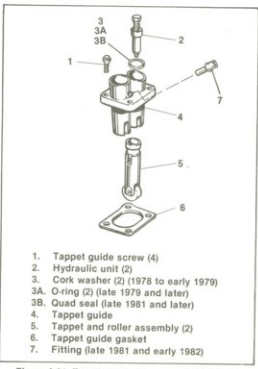

Figure 3-31. Tappet Assembly — Exploded View
Disassembling Tappets (Figure 3-31)
Assembling Tappets (Figure 3-31)
1. See Figure 3-31, 3-32. Slip tappets (5) into guide (4) so flat surfaces on tappets are toward center of guide as shown. If flat surfaces with holes are not toward center of guide, engine oil will not feed across and exhaust hydraulic unit cannot fill with oil.